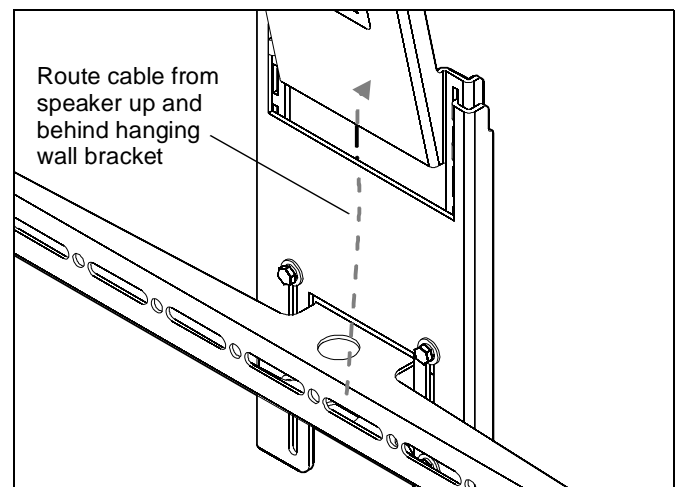

Figure 6
- Route cable from speaker up and behind the FCC100. (See Figure 6)